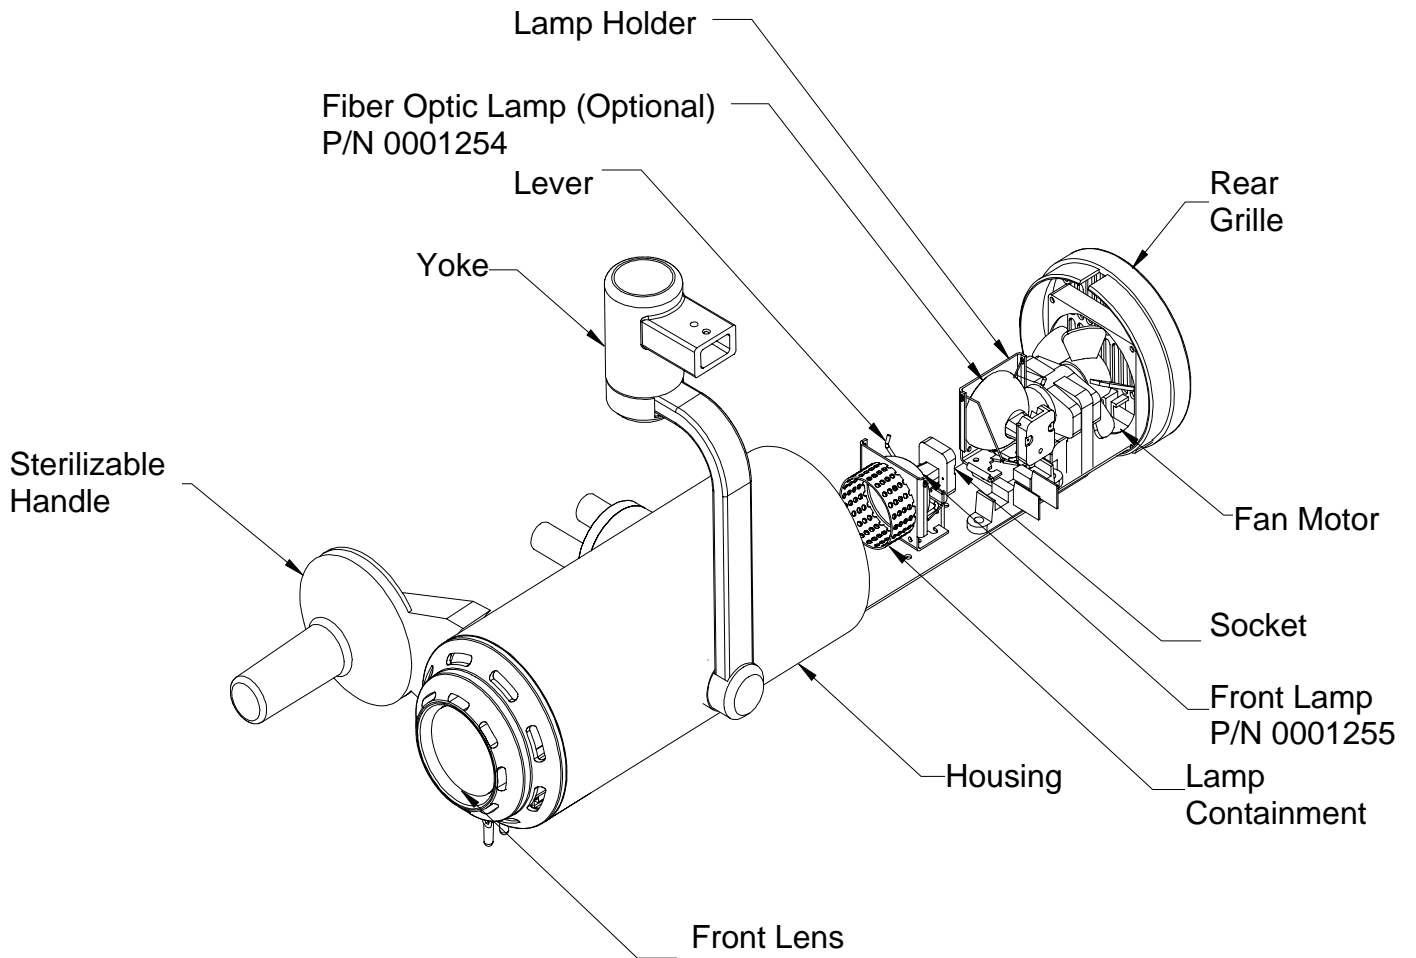

FIGURE 36: Centura Lamp Replacement
- (Refer to figure 36 for the Centura Spotlight.) Facing the back of the light, lower the housing and keep it in a horizontal position. Using a small Phillips screwdriver, loosen the screw located on the rear grille as shown. The screw cannot be removed from the grille once it is loosened; however the grill can now be separated from the housing. Separate the rear grille and housing sections by firmly grasping the grille with one hand while bracing the housing with the other hand. Carefully pull the rear grille toward you until the sections begin to separate. Continue to slowly pull the rear grille until the sliding platform slides out exposing the bulb(s). The front bulb will not be completely exposed, but there is sufficient space to remove the bulb.